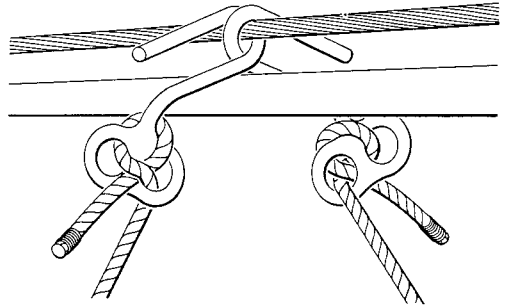
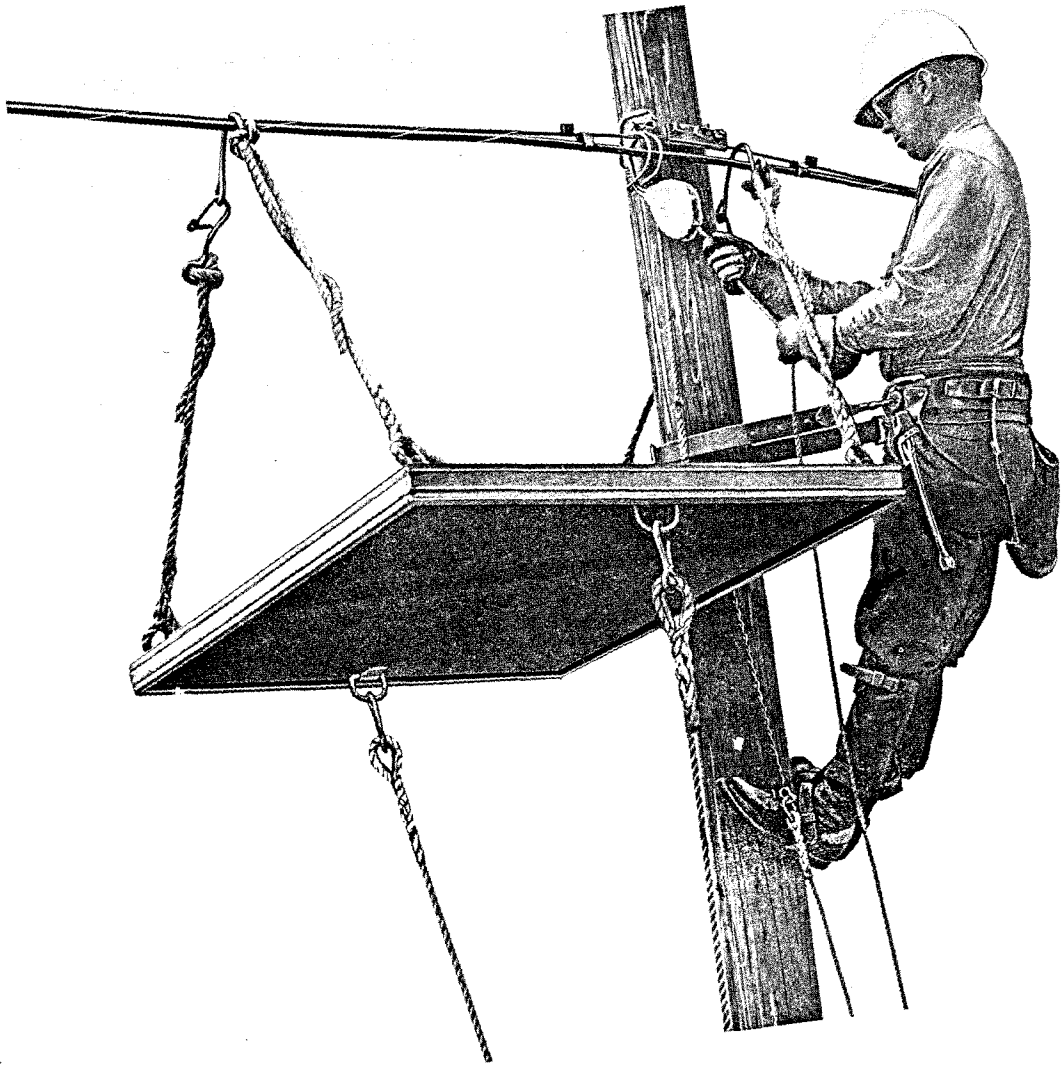
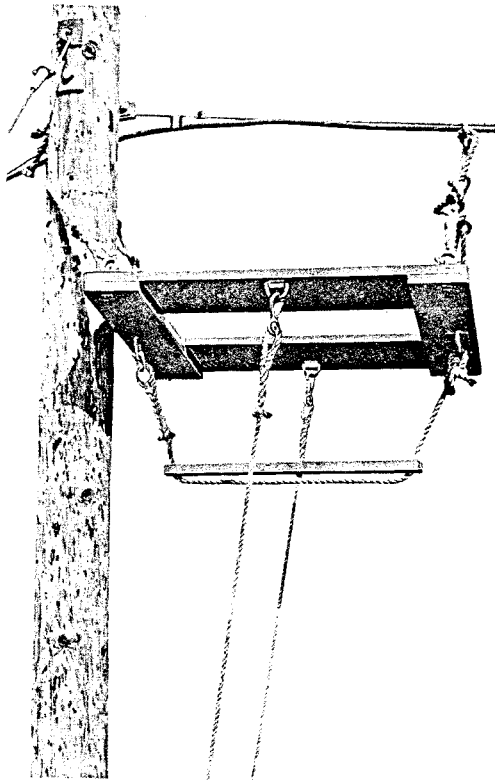
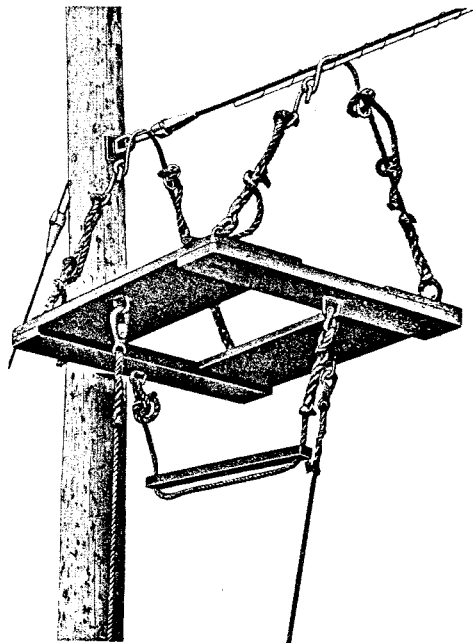

Fig. 5—Method of Engaging O Hooks
Fig. 9—E Platform Suspended at Pole
Fig. 10—D Platform Placed Adjacent to Pole
Fig. 11—D Platform At Dead-End Pole
- (g) Make sure that the support hooks have been properly attached to the strand. See Fig. 5, 6, and 7.
(b) Make sure hooks and saddles are tied as shown in Fig. 5, 6, and 7.
(d) Raise the platform to position approximately 30 inches below the strand and engage the locking mechanism of the B Handline to hold the platform. Engage the outer hooks or saddle and hook on the strand as shown in Fig. 5, 6, or 7. Release the B Handline lock and lower the platform until it is supported by the platform support ropes.
(e) Disengage the handline from the hook on the platform and move the handline block along the strand to a position approximately 6 inches from the pole or ladder. Raise the lower side of the platform. Lock the handline and engage the hooks or saddle and hook as shown in Fig. 5, 6, or 7. Release the handline lock and lower the platform until the support ropes hold it. See Fig. 9. When platform is placed adjacent to a pole the support ropes are located as shown in Fig. 10. When platform is placed at a dead-end pole the support ropes are located as shown in Fig. 11. The hooks or hook and saddle should be attached:
(f) After the hooks or saddles and hooks are in place on the strand, the platform may be leveled by moving the support ropes through the double eye of the hook or saddle. **Do not attempt any adjustments on the support ropes when standing or sitting on the platform.** See Fig. 5, 6, and 7.